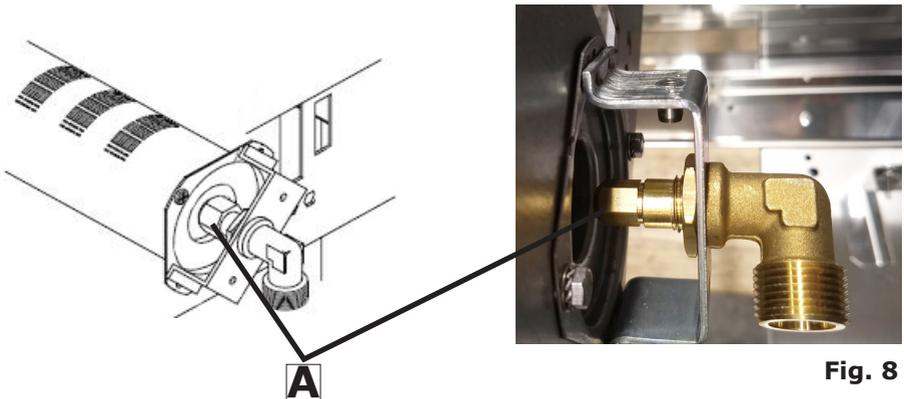

Fig. 8
- unscrew the nozzle (Ref.**A-Fig.8**) and replace it with the one corresponding to the gas chosen as indicated on the technical plate. The nozzles are marked in hundredths of a millimetre.